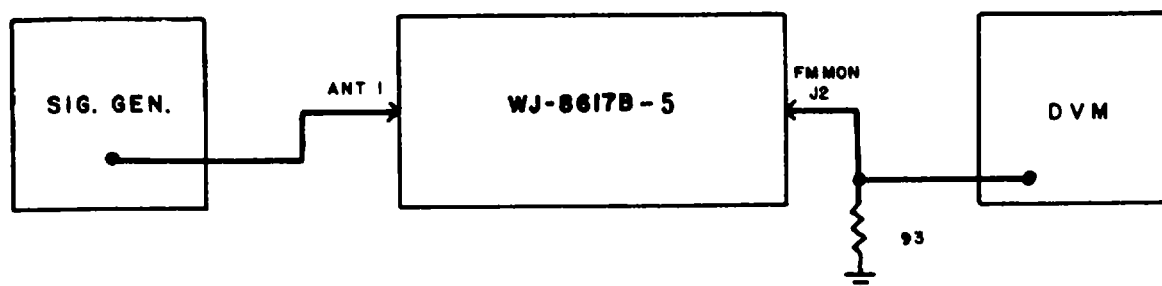

Figure 4-2. FM Demodulator Performance Test, Equipment Connections
1. Connect the test equipment as illustrated in **Figure 4-2**.